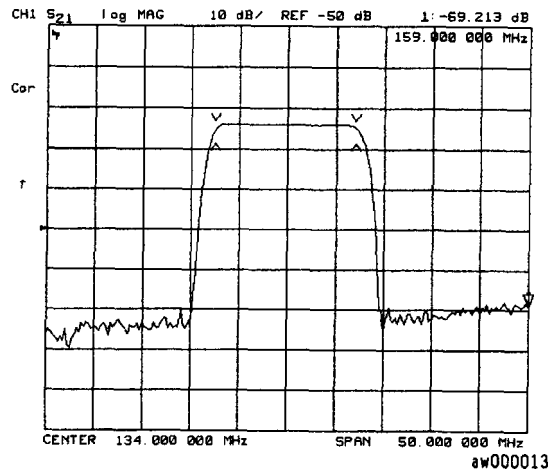

Figure 2-10. Example Single Point Limit Lines
2. To designate a single point limit line, as shown in Figure 2-10, you must define two pointers: